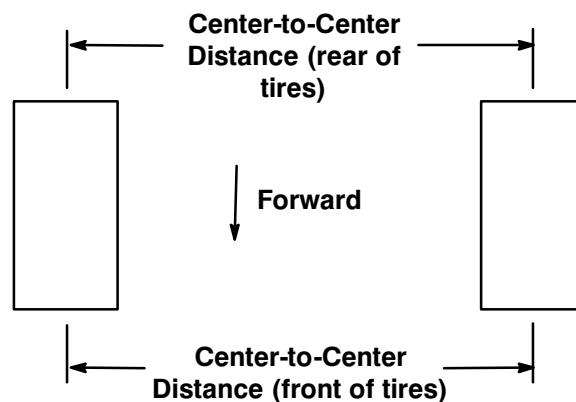

Figure 26
1. Measure the distance between both of the front tires at axle height (at the front and rear of the wheels) (Fig. 26). Front measurement must be equal to the rear measurement $\pm 1/4$ in.